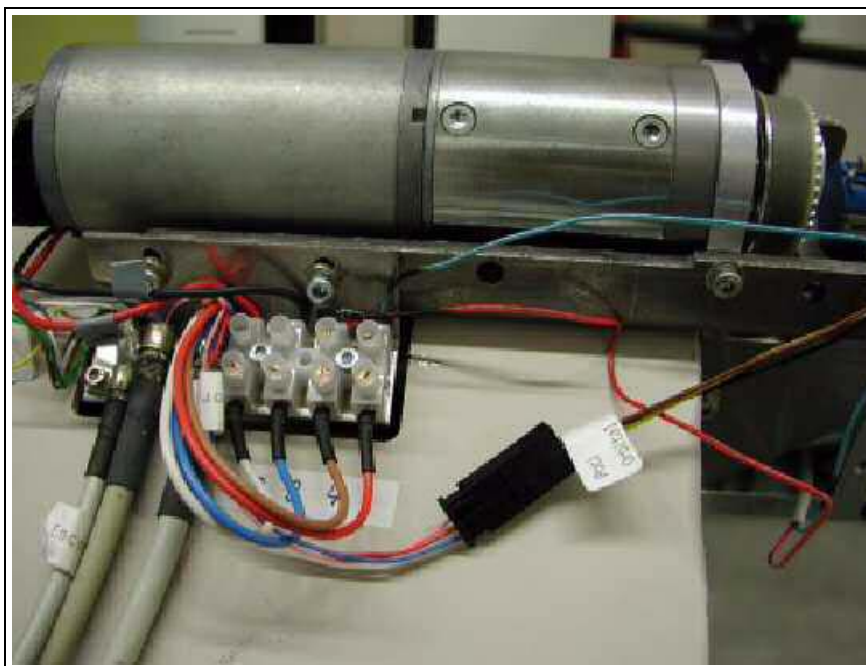

Fig. 44: Connecting the terminal block
- Connect cables 1 through 4 to terminal blocks 1 through 4 ((Fig. 44 / p. 42) and (Fig. 46 / p. 43)).